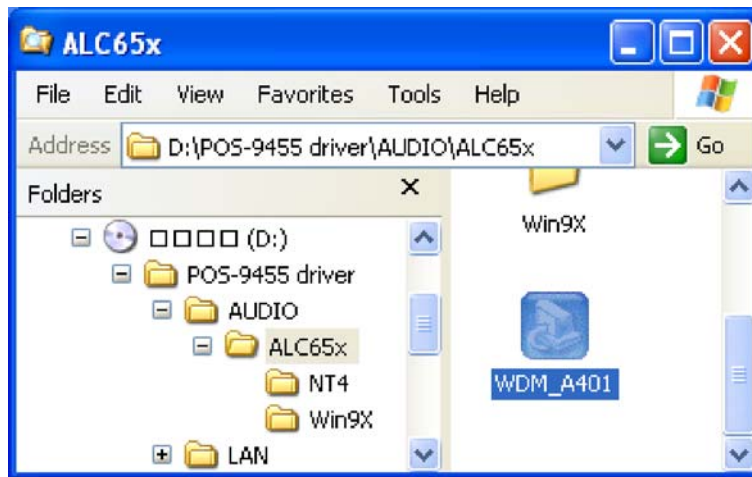

Figure 6-21: Select the Audio Codec
Step 1: Browse to the **2-Audio\ALC888-5614_PG258_UAAV10a-5013** folder on the installation CD (Figure 6-21).